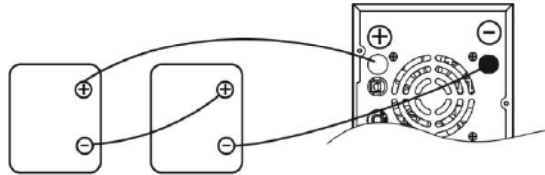

Fig 2
**2) Multiple batteries in series connection (Refer to Fig. 2):** All batteries must be equal in voltage and amp hour capacity. The sum of their voltages must be equal to the nominal DC Voltage of the unit.